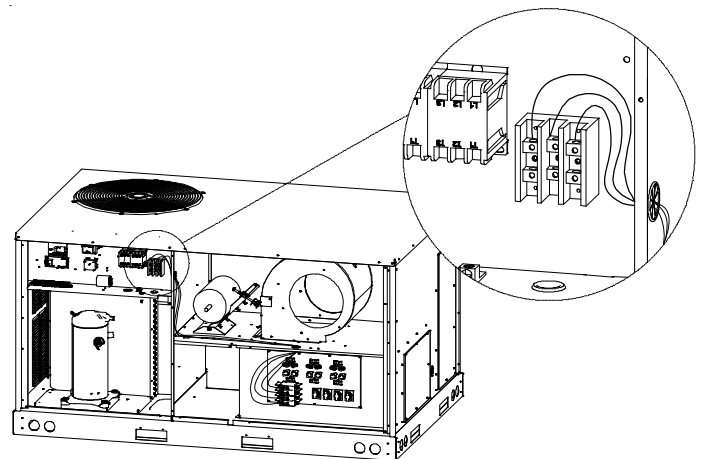

Figure 10
- Route all leads through the blower deck and into the control box as shown in Figure 10.